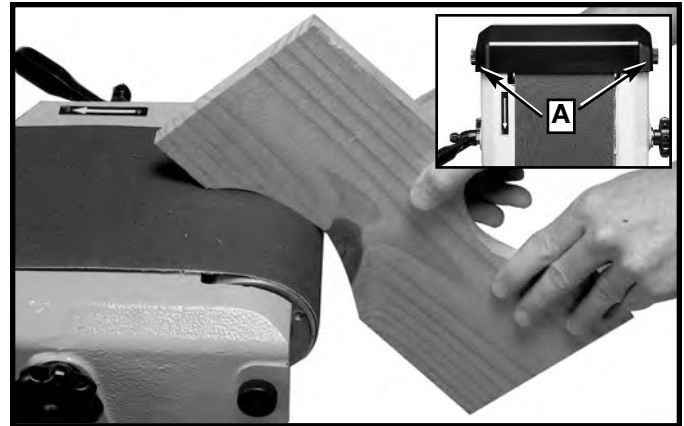

Fig. 46
You can sand inside curves on the top sanding drum (Fig. 46) if you loosen the knobs (A) Fig. 46 inset and remove the guard